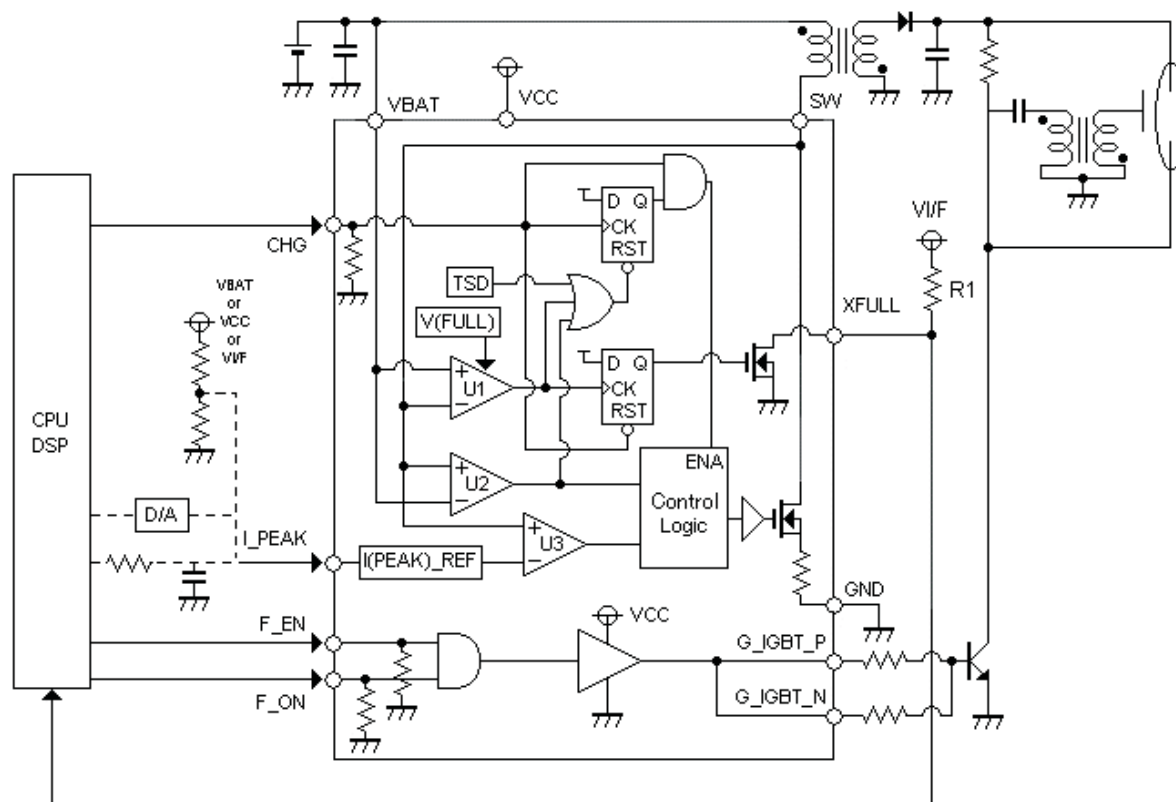
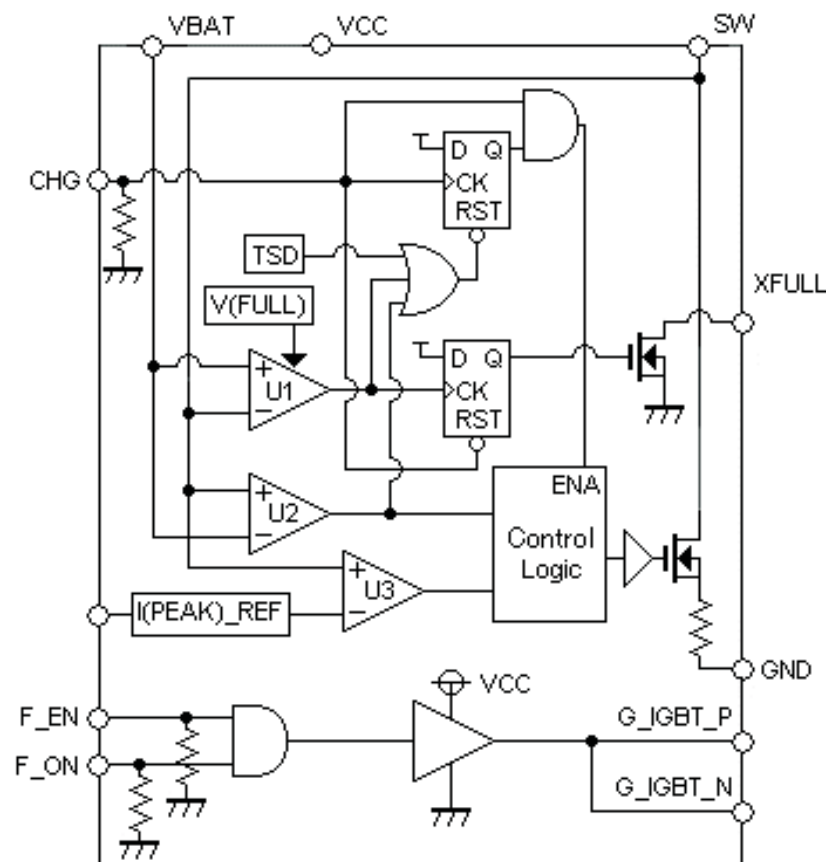
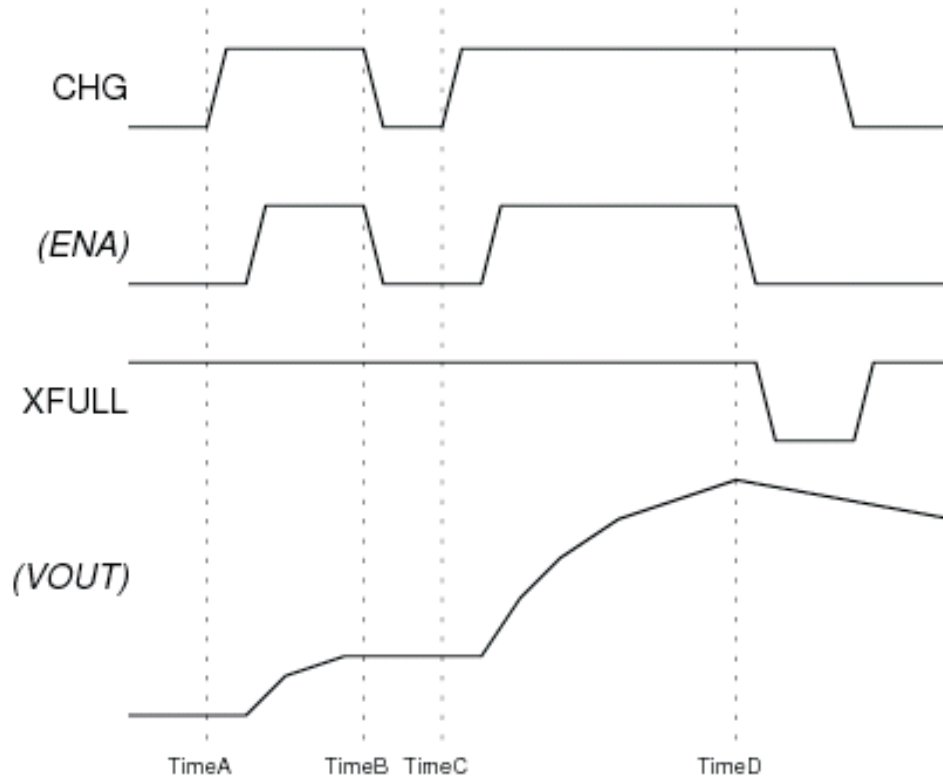
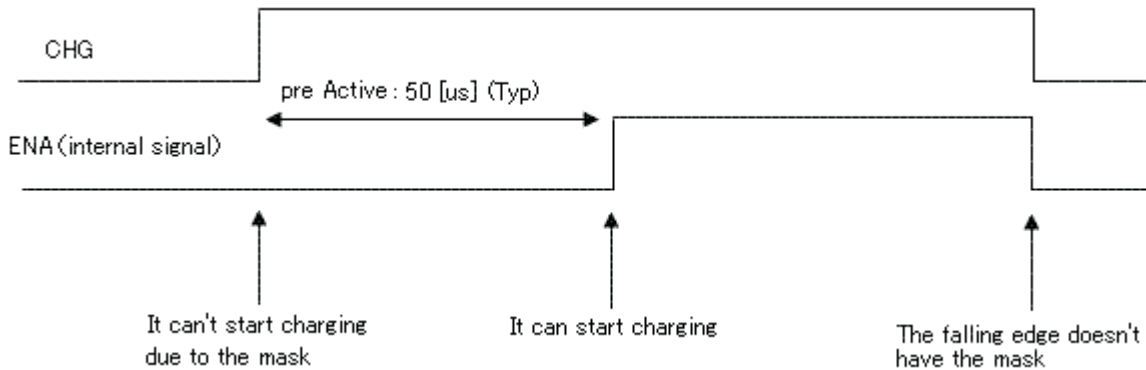

Figure 1. Typical Application Circuit
Figure 2. Block Diagram
Figure 3. Sequence for Charging
Figure 4. CHG Delay Time at Starting Charge Operation
The TPS65573 is particularly well-suited for portable device applications like digital still cameras (DSC), digital video cameras (DVC), optical film cameras, mobile camera phones and PDAs with cameras. The typical application circuit is shown in Figure 1.
TPS65573 has an enable/disable terminal for charging, named CHG. The only way to start charging is to input high level signal into CHG terminal (see Time A and Time C in Figure 3). This high level signal is latched by internal D-FF shown in Figure 2. Internal ENA signal goes up with some delay shown in Figure 4 to avoid malfunction with pulsed noise at CHG terminal.
1. Forced stop by inputting low level at CHG (see Time B in Figure 3).
2. Automatic stop by detecting full charge; VOUT achieves the target value (see Time D in Figure 3).
It is acceptable to start re-charging after a forced stop controlled by CHG terminal (see Time C in Figure 3).
When the signal of CHG terminal is high, the charge operation is started with some delay shown in Figure 4. At first, the internal FET switch turns on and the current at SW terminal goes up. When the current achieves the target current defined by the voltage at I_PEAK terminal, the internal FET switch turns off and the voltage at SW terminal goes up due to kick-back voltage at the transformer. When the internal FET switch is on, the inductance at the primary side of the transformer stores energy which depends on the current at the primary side of the transformer.
When the internal FET switch turns off, the stored energy is transferred to the secondary side of the transformer. At that moment, the current flows in the secondary side from secondary side of the transformer to the photo flash capacitor via the fast recovery diode (FRD) as shown in Figure 1.
The TPS65573 uses three comparators, U1, U2, and U3 in Figure 1 and Figure 2 to determine the state of the internal FET switch. Below are the descriptions for these comparators.
Three optional connections to I_PEAK are shown in Figure 1.